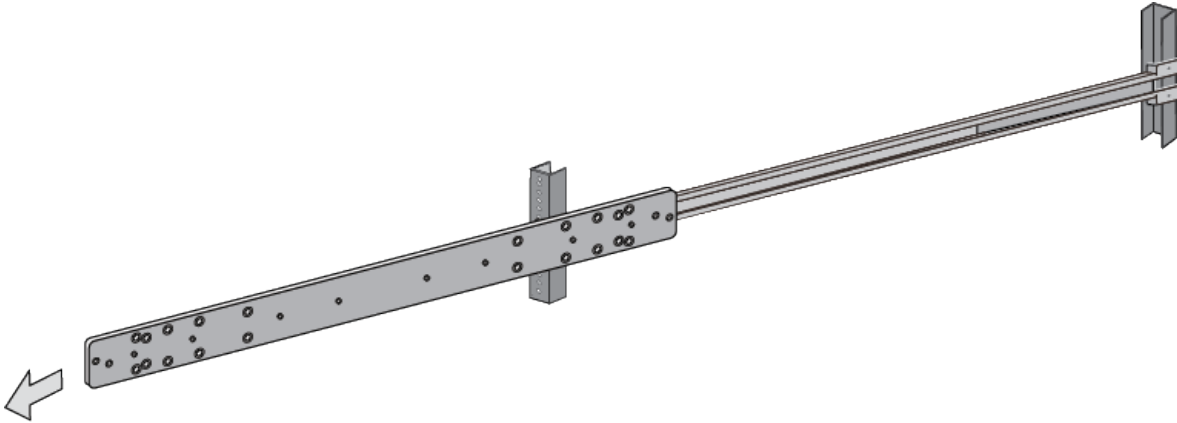

Figure 109. Removing the Inner Rail
4. Remove the inner rail from the outer rail. Refer to Figure 109.